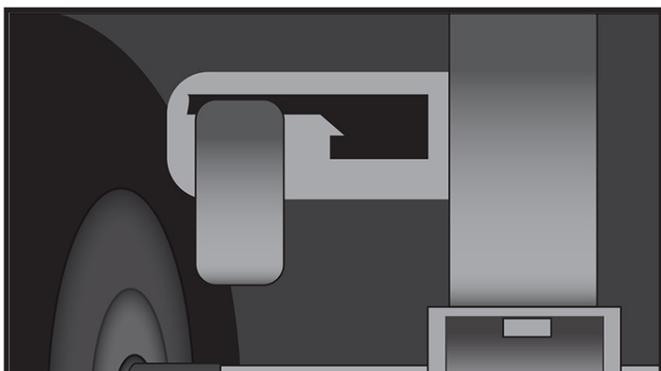
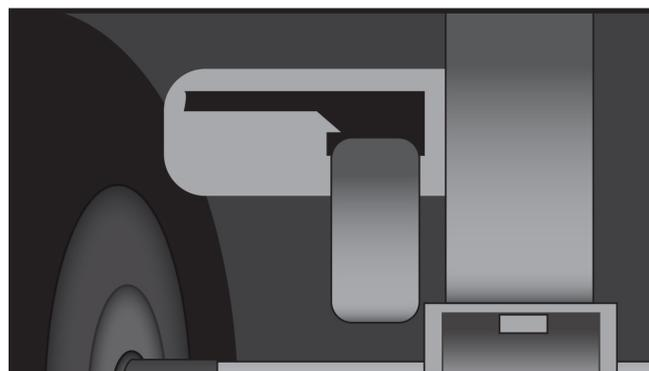

Figure 6: Second-Generation Cart Brake Lever Position for Drive System Operation
Figure 7: Second-Generation Cart Brake Lever Position for Manual Towing
**Note:** Second-generation model X-System carts (those with a black top) have a different brake lever than first-generation carts (those with a silver top). See Figure 6 and Figure 7 below.